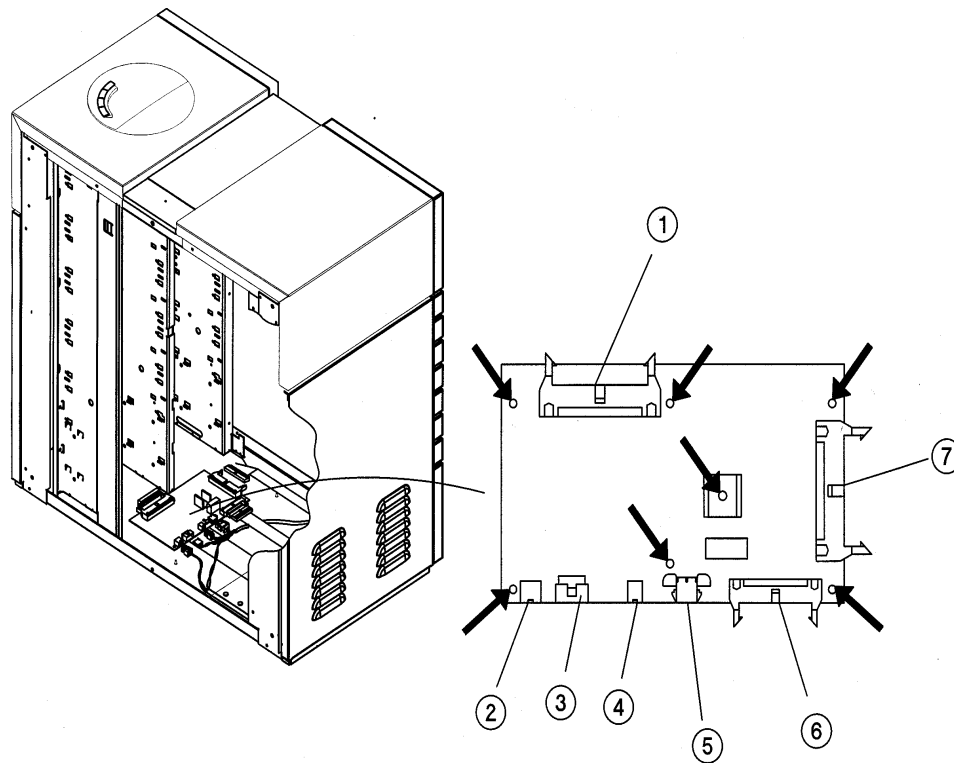

Figure 79: Controller PCA Cables and Mounting Screws
2. Remove all cables from the controller PCA (see Figure 79).
3. Remove the seven T-20 screws holding the controller PCA to the chassis (see arrows on Figure 79).